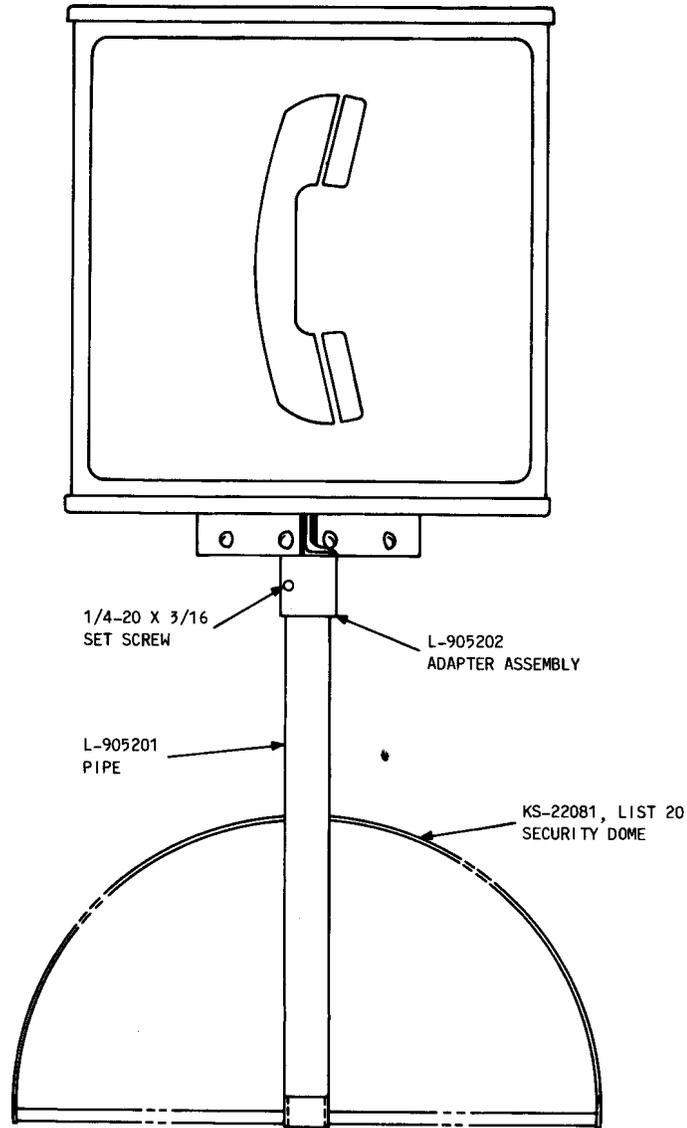

Fig. 4—KS-20031, List 1 Sign Mounting Arrangement
- (b) Screw the threaded end of 14-inch pipe into the hole (Fig. 4).
- (c) Place the adapter assembly (Fig. 4) on other end of pipe. Tighten the 1/4-20 by 3/16-inch setscrew against pipe.